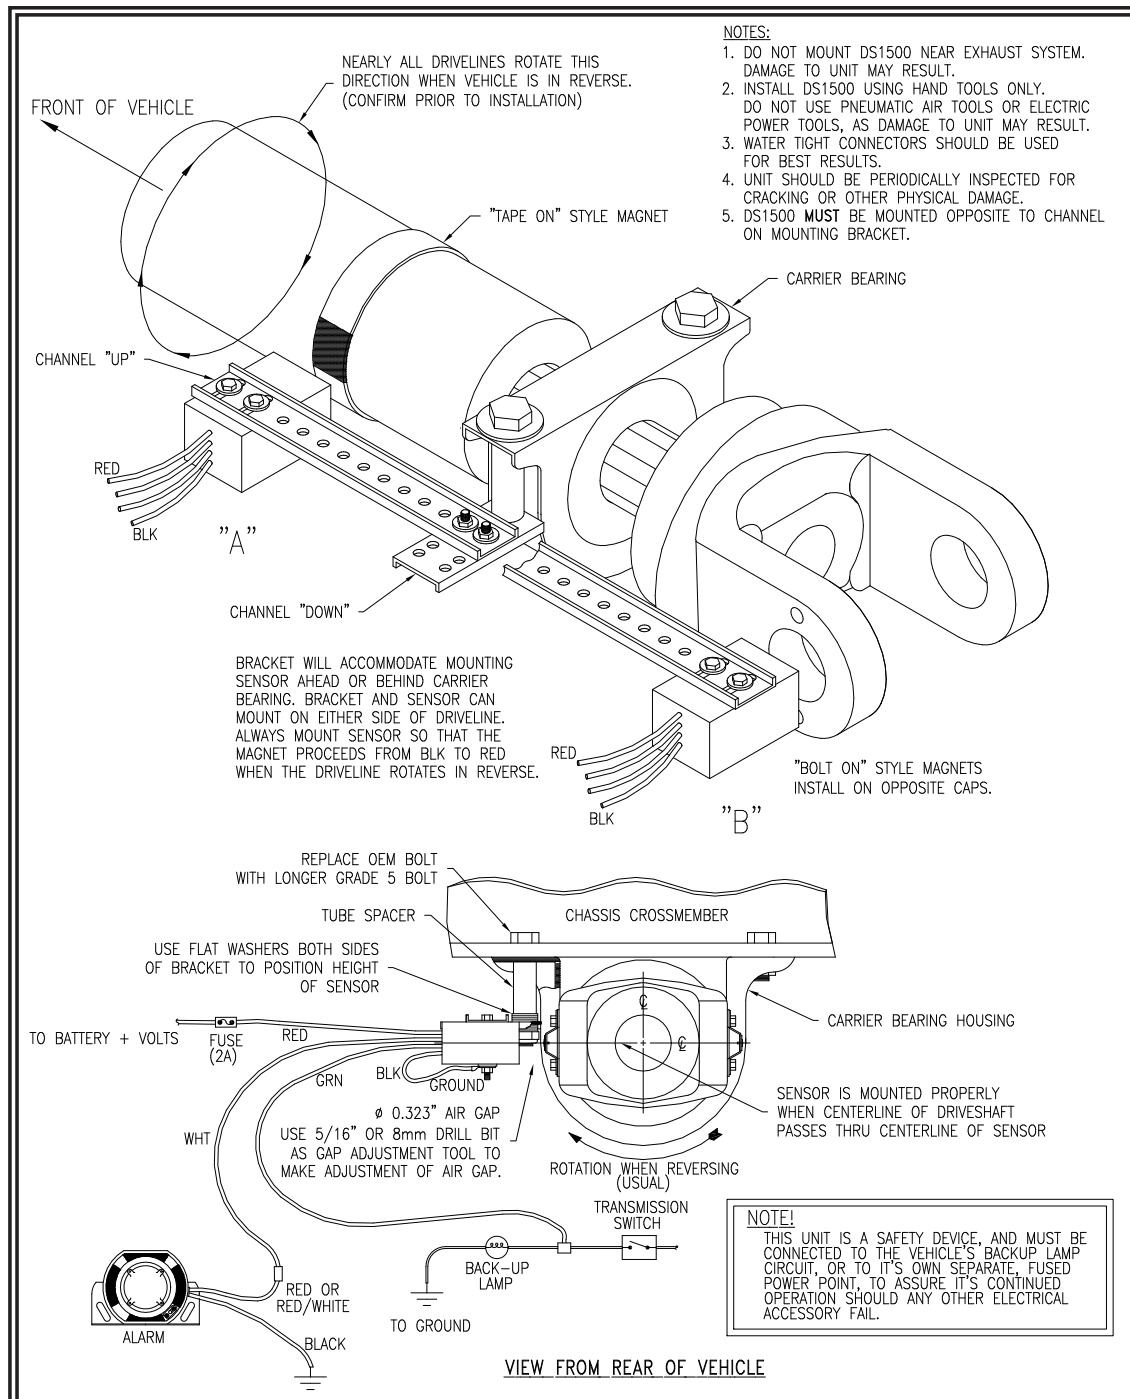

Figure 2
The magnets in the DS1500 sensor system may be mounted using either the “tape-on” method (A), where the magnets are taped directly onto the drive line, or the “bolt-on” method (B), where the magnet assemblies are bolted onto the U-joint caps. See Figure 2 on page 3.
2. Mount brackets and sensor assembly as shown in figure 2, using the washers to position the height of the sensor.